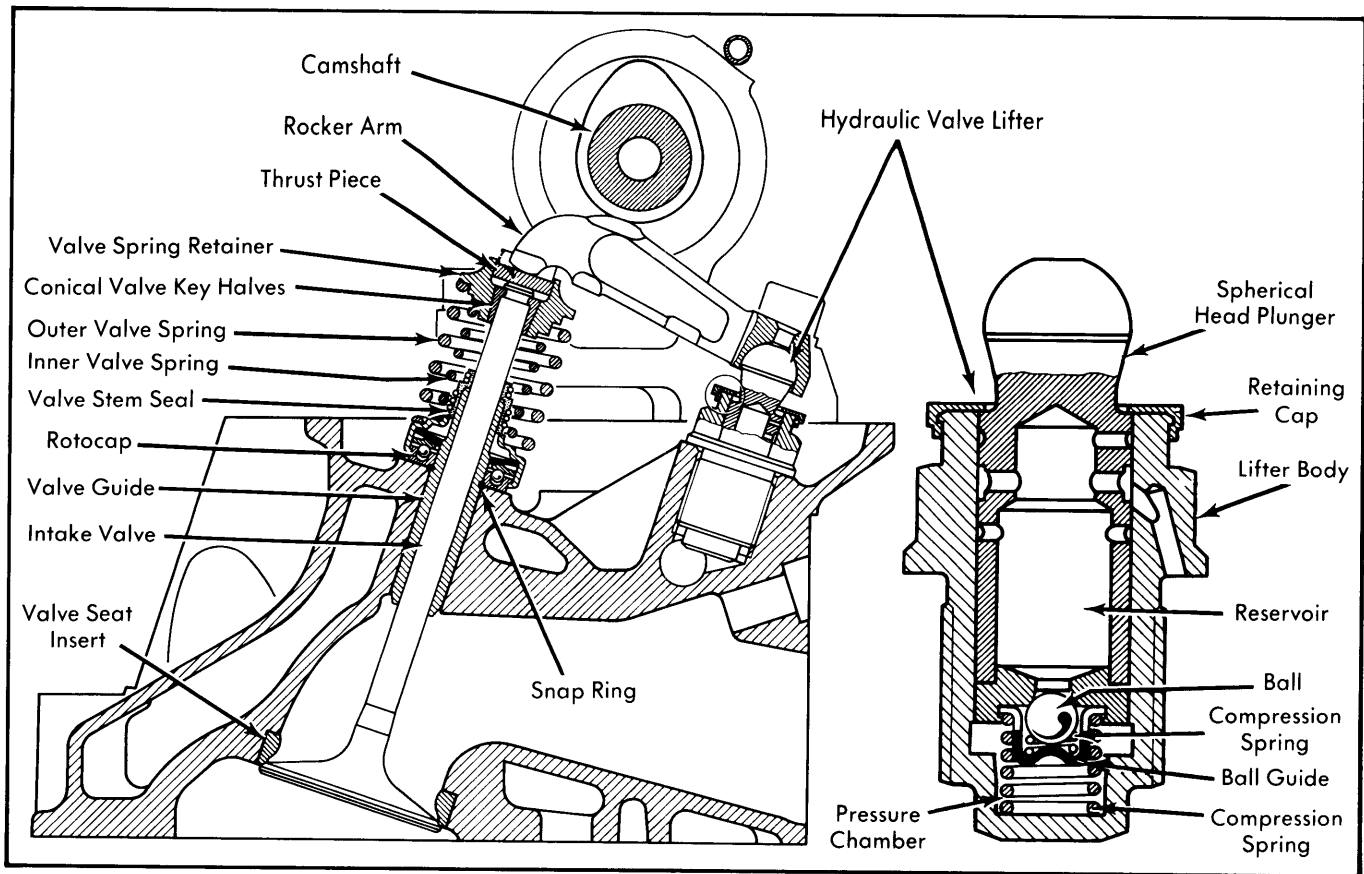

Fig. 2 Cutaway View of Valve System and Lifter
1) Hydraulic valve lifters eliminate the need to adjust for valve clearance. See Fig. 2. Constant contact of rocker arms with camshaft, valves and lifters not only reduces noise, but also compensates for wear or temperature changes.
2) Oil pressure to operate the lifters is supplied by the oil pump, through a lateral passage in the cylinder head (with connecting bores to each lifter) and an oil passage in the fifth camshaft bearing. The spherical head plunger contains an oil reservoir, which is separated from the pressure chamber by a ball valve. See Fig. 2.
2) Using a suitable plug gauge, inspect valve guides. Inner diameter of new inlet guides should be .354-.355" (9.000-9.015 mm); exhaust guides should be .433-.434" (11.000-11.018 mm). If guide is beyond this tolerance, replace with new guide. See Fig. 2.
2) To adjust, position cam lobe in the vertical, no-load position. The clearance between the upper edge of plunger cylinder (below socket joint) and the lower edge of the retaining cap should be .028-.075" (.7-1.9 mm). This dimension can change with wear. To adjust, use thinner or thicker thrust pieces. See Fig. 2.